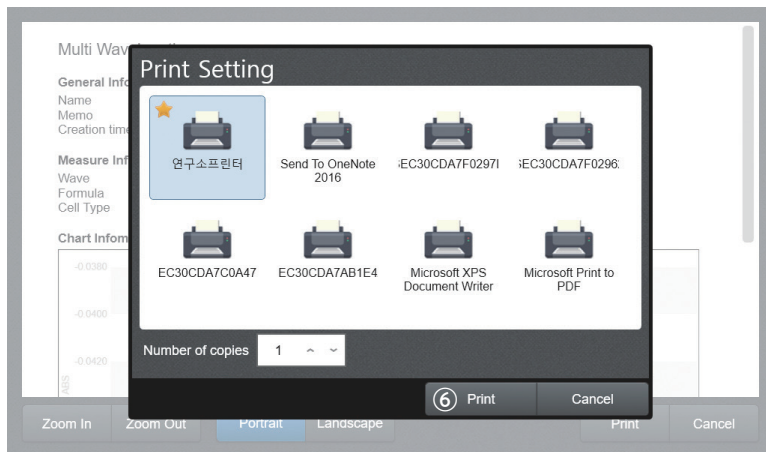

Fig. 3.19
11. [Fig. 3.19] Set the printer and number of pages to print on the printer settings screen.
12. [Fig. 3.19] Press the ⑥ **Print** button to start printing.